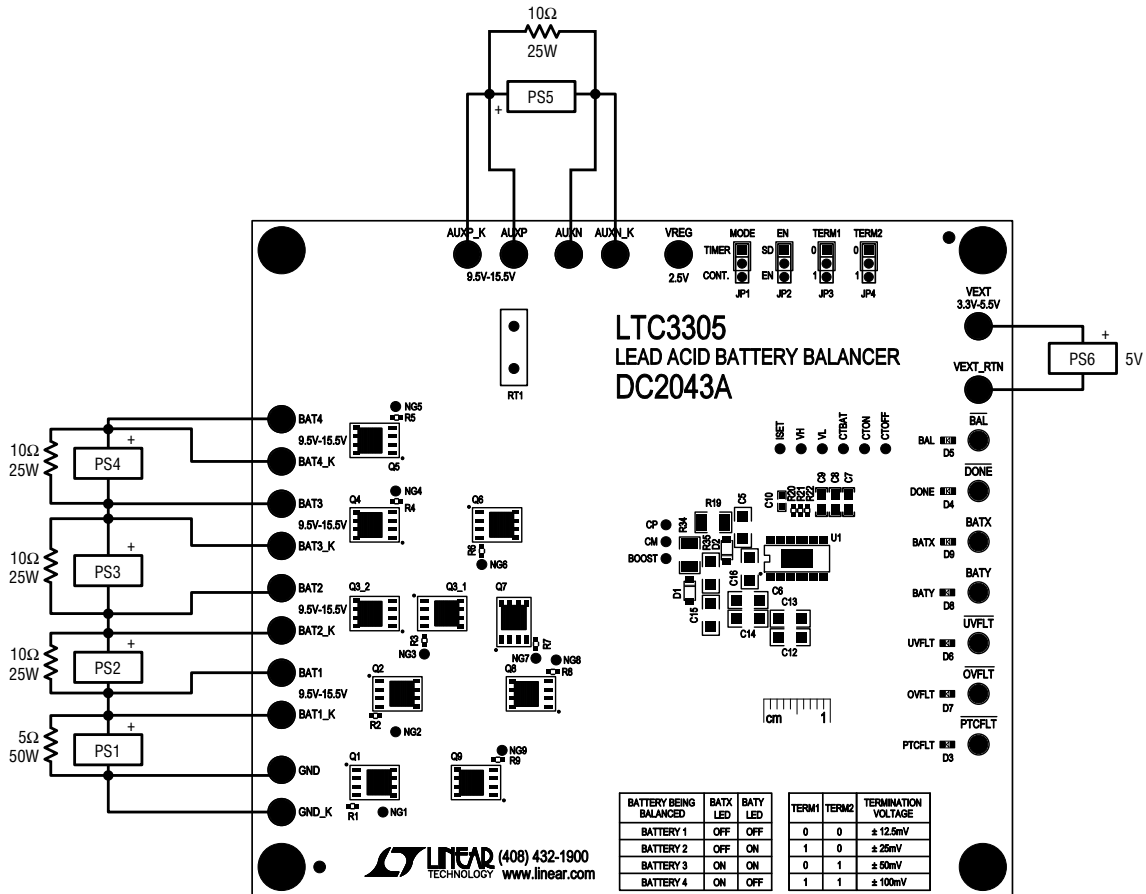

Figure 5. Proper Measurement Equipment Set-Up
Using short twisted pair leads for any power connections, with all loads and power supplies off, refer to Figure 5 for the proper measurement and equipment setup.
**JP1(MODE) = CONT JP2 (EN) = SD**
- Connect power supplies, load resistors and meters as shown in Figure 5. Turn on PS1 and slowly increase voltage to 2.0V while monitoring the input current. If the current remains less than 200mA, increase PS1 to 12.0V. Repeat for PS2-PS4.